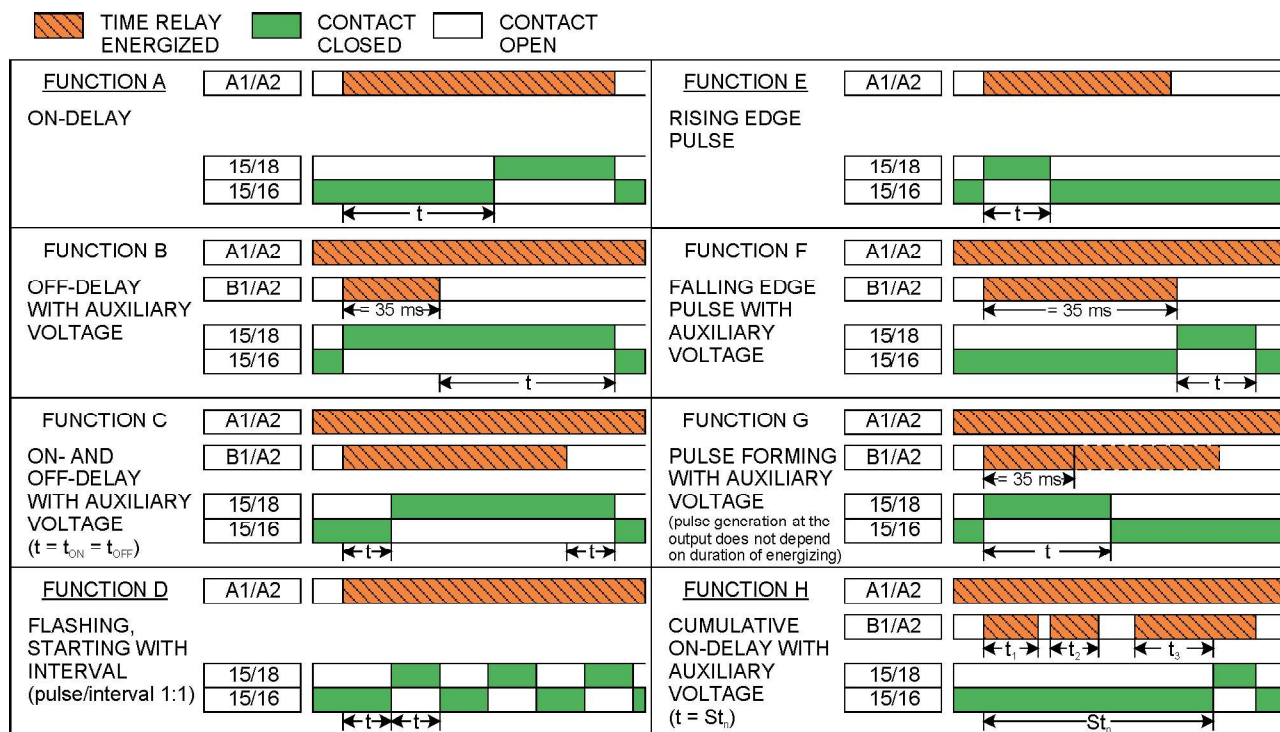

Figure 6-4. Time diagram.
- 10.** Explain what happens (refer to the Figure 6-4 time diagram if necessary).
- 12.** Explain what happens (refer to the Figure 6-4 time diagram if necessary).
- 14.** Explain what happens (refer to the Figure 6-4 time diagram if necessary).
- 18.** Explain what happens (refer to the Figure 6-4 time diagram if necessary).
- 20.** Explain what happens (refer to the Figure 6-4 time diagram if necessary).
- 22.** Explain what happens (refer to the Figure 6-4 time diagram if necessary).